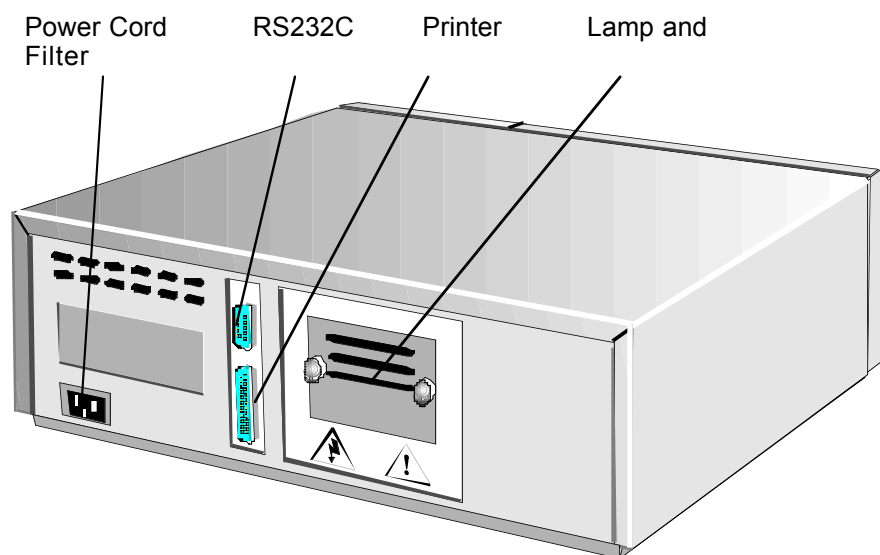

Figure 4. Rear View of the *Opsys MR* System
The rear of the *Opsys MR*TM is shown in Figure 4. Connections for the power cord, the printer, and an external computer are made at the rear of the system.
1. Plug the 25-pin end of the printer cable into the printer port receptacle at the rear of the instrument (Figure 4).
1. Plug the communication cable from the external device into the RS232C port at the rear of the instrument. See Figure 4 for the location of the RS232C port.